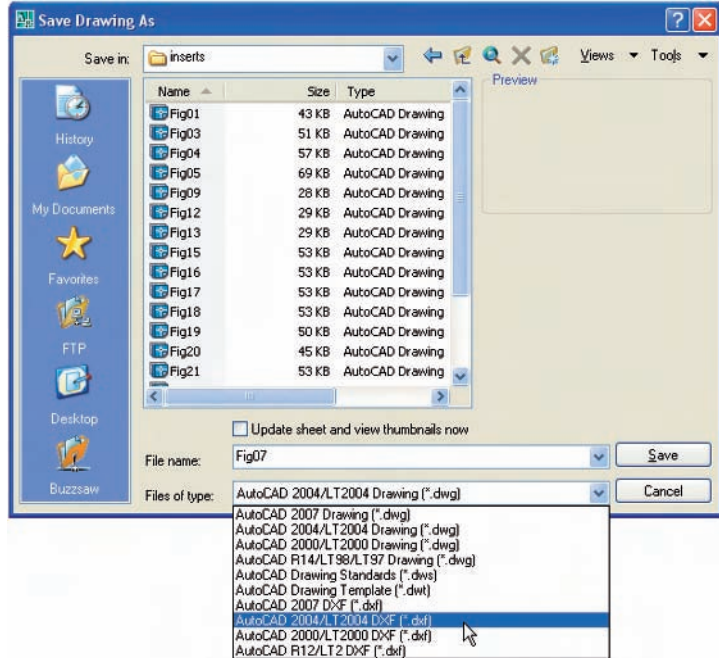

Fig. 10.8 The **Save Drawing As** dialog set up to save drawings in **DXF** format.
Example – DXF file (Fig. 10.8)
3. Enter a suitable file name. In this example this is Fig 07. The extension **.dxf** is automatically included when the **Save** button of the dialog is clicked (Fig. 10.8).